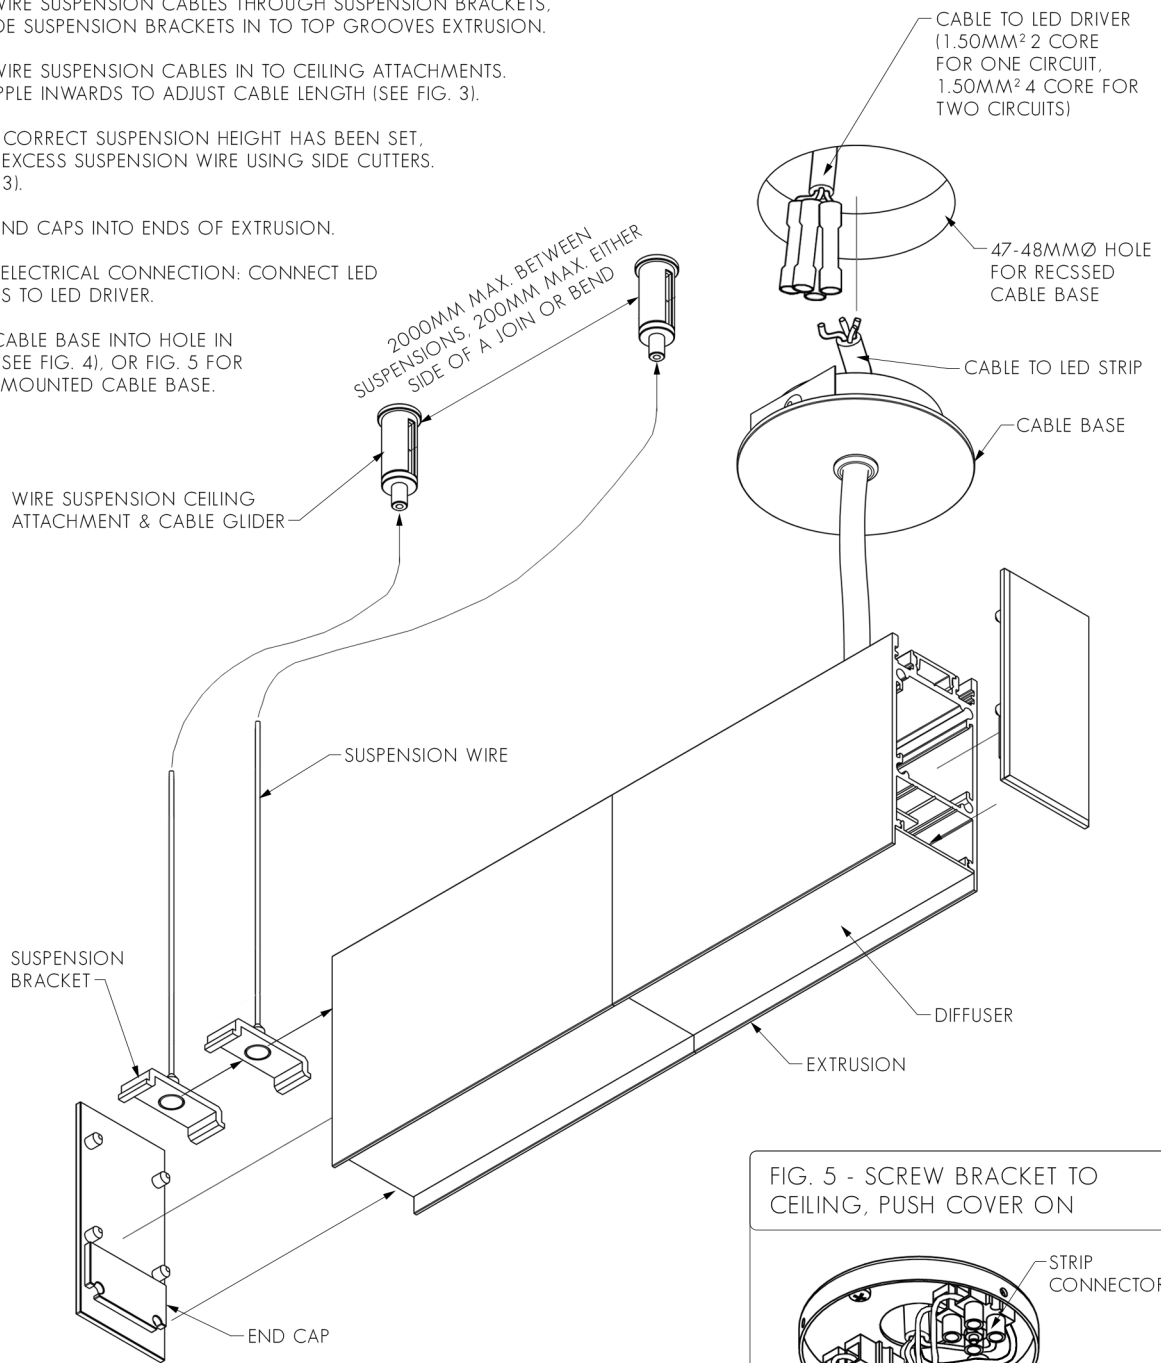
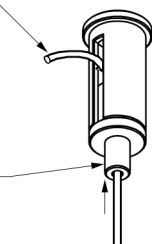

FIG. 5 - SCREW BRACKET TO CEILING, PUSH COVER ON
FIG. 4 - INSERT CABLE BASE IN TO CEILING
6. PUSH CABLE BASE INTO HOLE IN CEILING (SEE FIG. 4), OR FIG. 5 FOR SURFACE MOUNTED CABLE BASE.